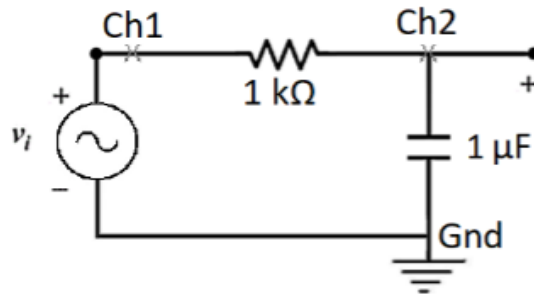

Figure 11
10. Write the transfer function of the low-pass filter circuit shown in Figure 11. Using this function, calculate the amplitude of the output signal for the input signals given in Table 6.
- Build the circuit given in Figure 11. Apply a sinusoidal signal ($V_{pp}=10V$) from the signal generator. Measure the output voltage on the $1\mu F$ capacitor according to changing frequency values given in Table 6 by using an oscilloscope and write the results in related places in Table 7.